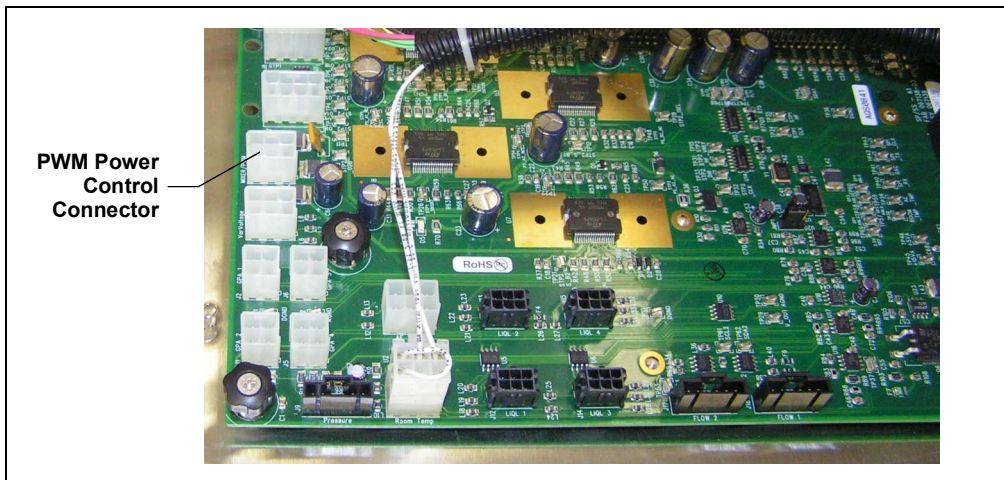

Figure 3-36. Main SP Electronics Board: PWM Power Control Connector
4. Locate the connector labeled **Mixer/PWM** on the left side of the main SP electronics board (see Figure 3-36).